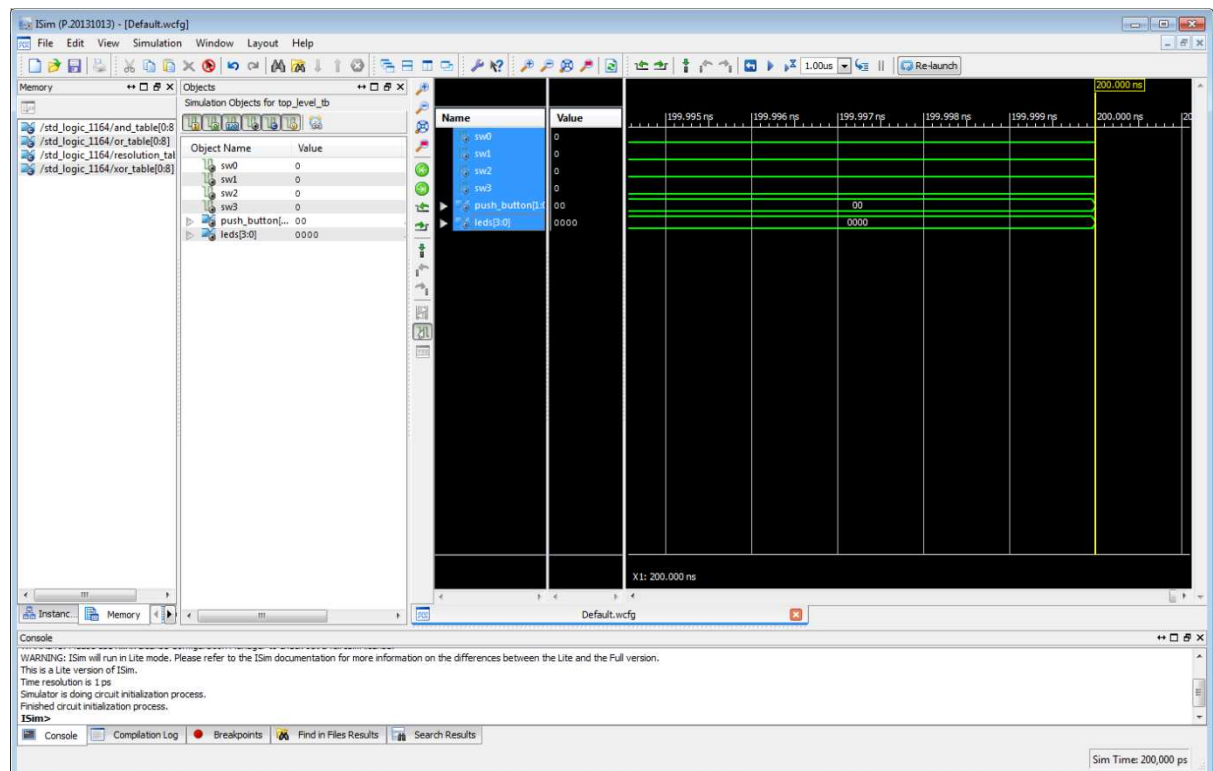

Figure 4.17: ISim Window.
- Double click on **Simulate Behavioral Model**. The ISim window will appear, as shown in Figure 4.17.